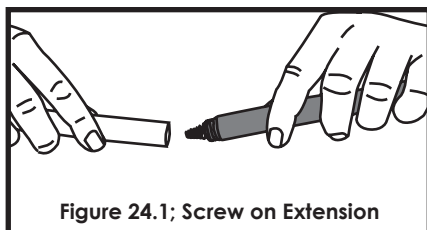

Figure 24.1; Screw on Extension
Attach EXTENSION HANDLE (K) onto the end of the SMART WAND™. Screw into place [Fig. 24.1].